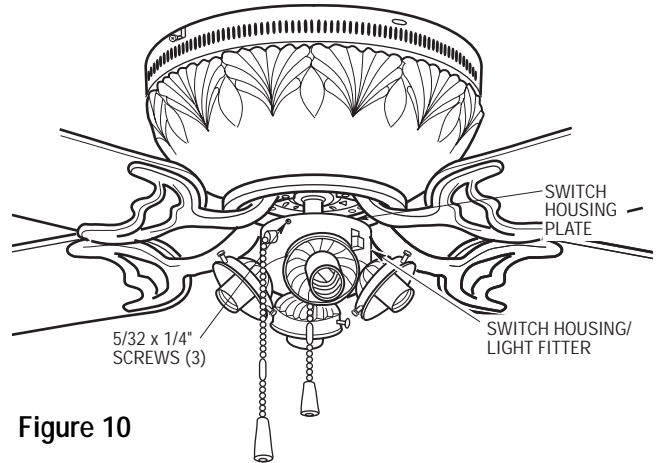

Figure 10
- 6. Position the switch housing/light fitter on the switch housing plate and align the holes in the switch housing/light fitter with the holes in the plate. Secure by installing three 5/32 x 1/4" screws (Figure 10).